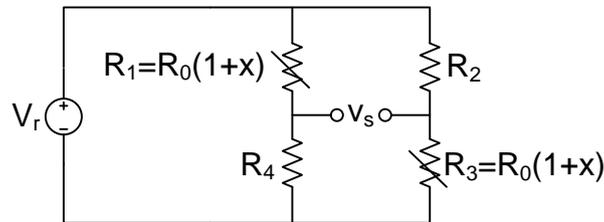

Figure 2: Bridge circuit with two strain gauges.
The two strain gauges and the two fixed resistors are connected in a bridge circuit with a voltage supply V_r . The electrical equivalent circuit of this sensor is shown in Figure 2.
- (5p) (b) Does the sensor circuit shown in Figure 2 show a non-linear response when pressure is applied to the sensor? (Explain your answer)
- (5p) (c) What value should the voltage supply V_r have to maximize the sensitivity of the sensor circuit shown in Figure 2 for a change in x ?
- (5p) (d) Show that the output voltage v_s of the sensor circuit shown in Figure 2 is equal to -4.7 mV when a pressure of $100 \cdot 10^6 \text{ N/m}^2$ is applied to the metal strip and $V_r = 7.5 \text{ V}$.